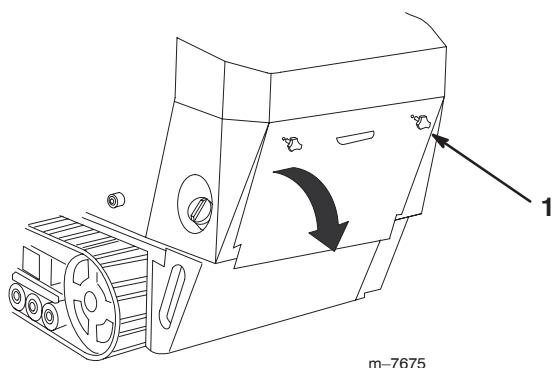

Figure 17
1. Unscrew the 2 hand knobs securing the rear access cover to the machine (Fig. 17).
2. Tilt the rear access cover down and remove to access the internal components (Fig. 17).
2. Push the access cover forward, lining up the hand knob screws with the threaded holes in the machine (Fig. 17).
3. Screw the hand knobs tight to secure the rear access cover in place (Fig. 17).